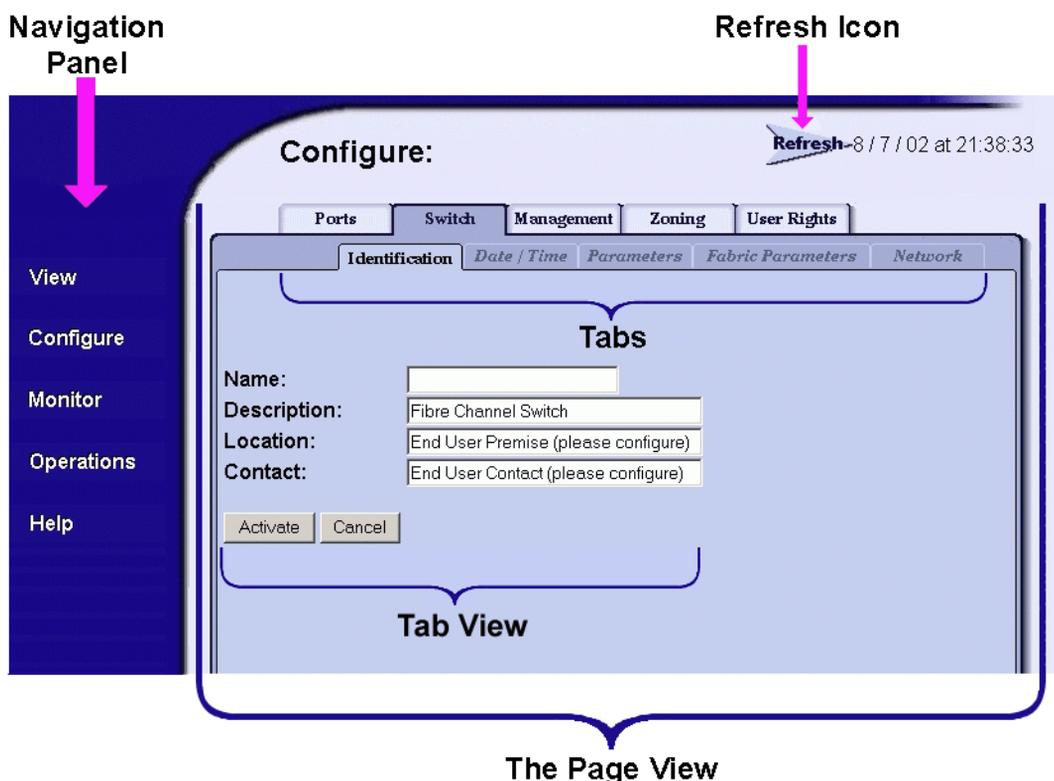

Figure 1–1: Example Embedded Web Server page for Edge Switch 2/24
When the EWS interface opens, the default display is the **View** page. Figure 1–1 shows an example EWS view with labels for the various parts of the image. This example shows the **Configure > Switch > Identification** screen for the Edge Switch 2/24. For other products, the corresponding page looks very similar.
As shown in Figure 1–1, particular terms are used when describing the EWS interface:
- **Tab** — describes a label for a viewing option on a page, such as the **Switch** and **Identification** tabs shown in Figure 1–1. Task selection tabs display at the top of the page. The task selection tabs allow users to perform Director- or Switch-specific tasks.